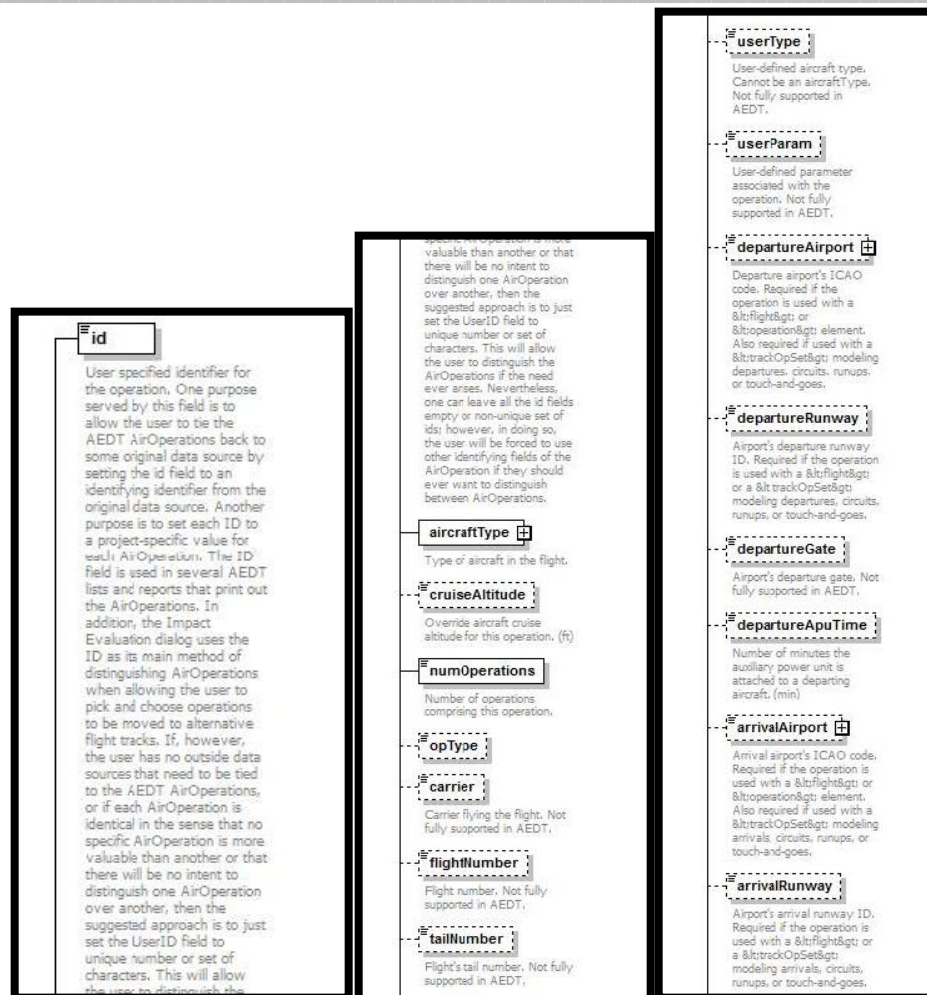

Figure 48- element operation - 1 -> 2 -> 3
13. AsifXml/study/scenario/case /operation (Figures 48 and 49):